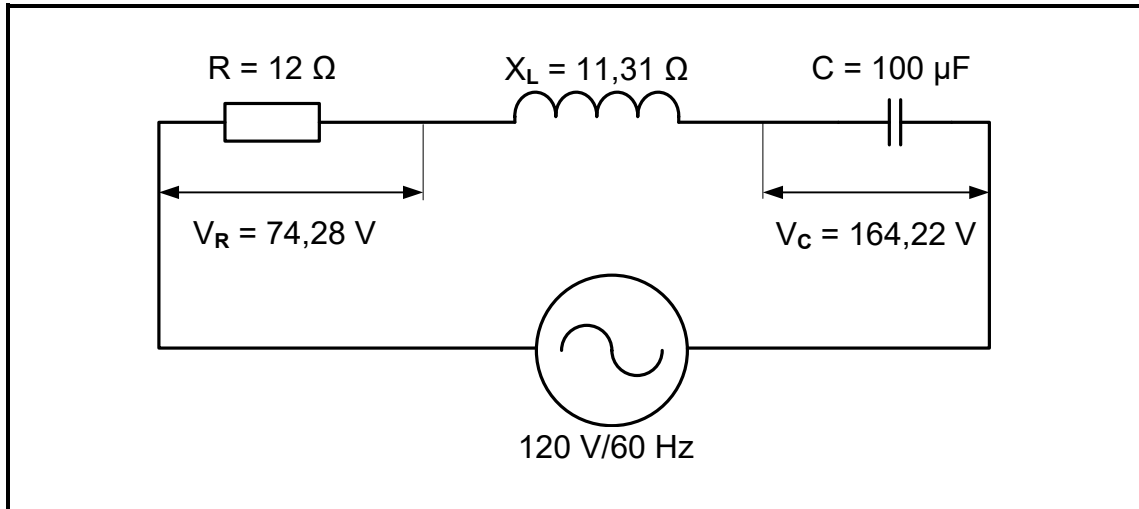

FIGURE 3.2: RLC SERIES CIRCUIT
- 3.2 Refer to the circuit in FIGURE 3.2 below and answer the questions that follow.